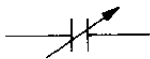

Figure 1.100
Variable capacitors are primarily confined to the smaller capacitance values (up to about 1000pF) and are commonly used in radio-frequency (RF) circuits. Trimmers are available for in-circuit adjustments, in addition to the panel type for user tuning. Figure 1.100 shows the symbol for a variable capacitor.